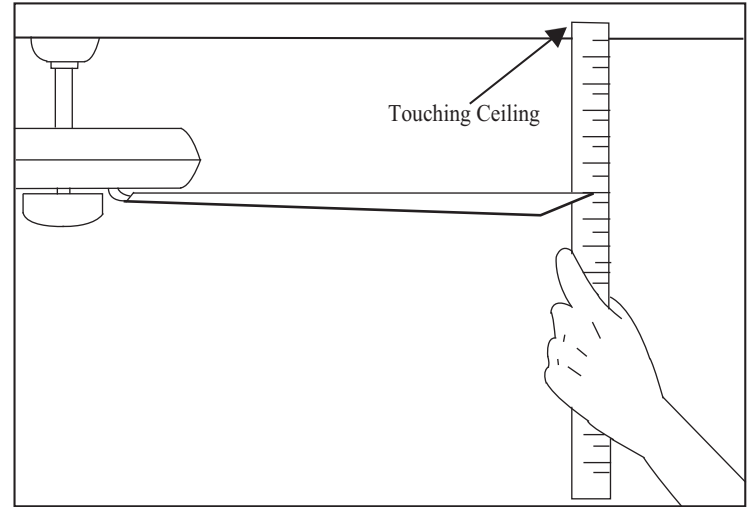

Figure 14
2. Most fan wobble problems are caused when blade levels are unequal. Check this level by selecting a point on the ceiling above the tip of one of the blades. Measure from a point on the center of each blade to the point on the ceiling. Measure this distance as shown in Figure 14. Rotate the fan until the next blade is positioned for measurement. Repeat for each blade. Measurements deviation should be within $1/8$ ". Run the fan for 10 Minutes.